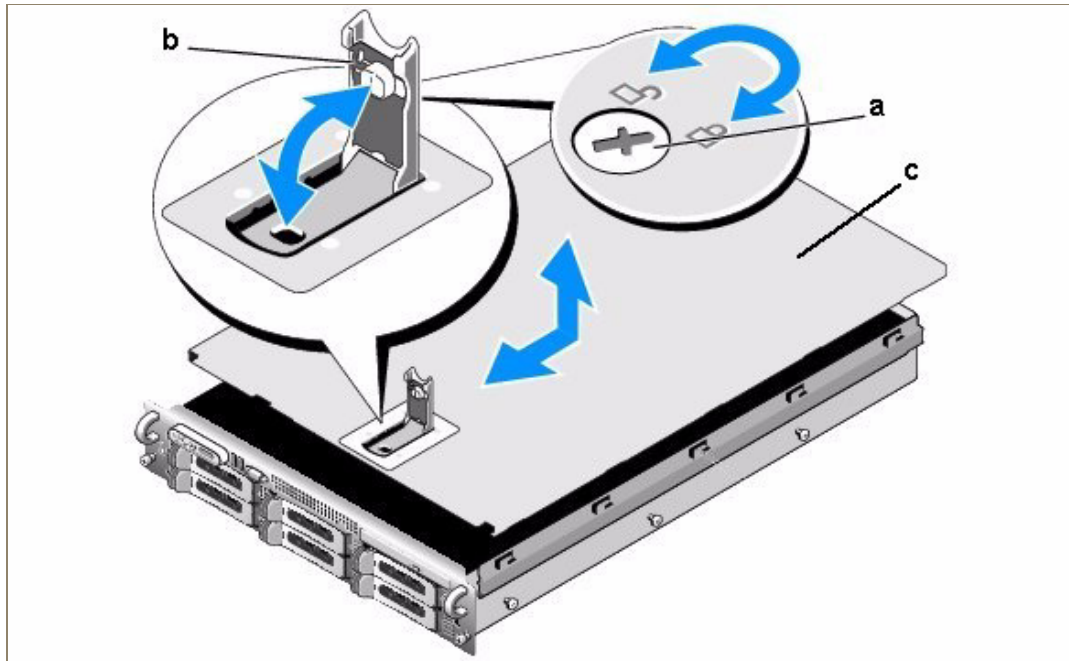

Figure 2-8 Removing the cover from the appliance
- 3 Remove the cover (see Figure 2-8).